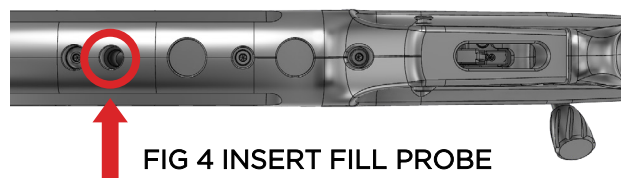

FIG 4 INSERT FILL PROBE
Ensure both the fill probe and port are clean from dirt, then insert fill probe into fill port (See FIG 4 to insert fill probe).
- Follow FIG 4 to insert fill probe to your rifle.